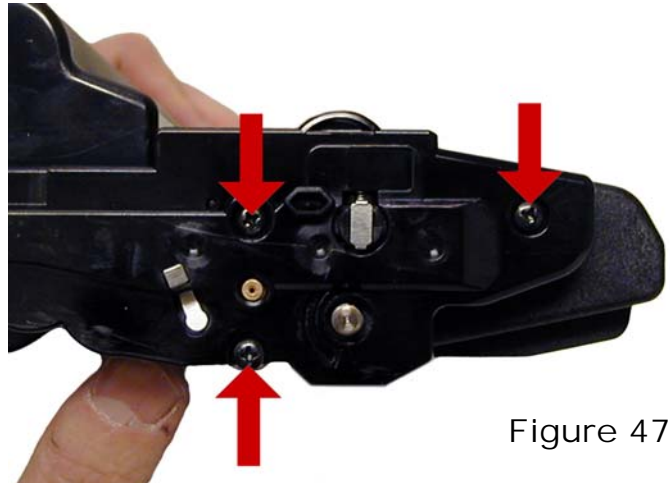

Figure 47
43) Remove the tape from the gears, and install the left side end cap and three screws. Make sure the top rear tab locks in place. See **Figures 47 & 48**